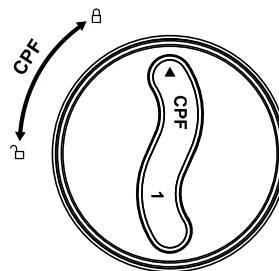

Figure 7
6. Gently press the filter element and rotate it 90° clockwise, ensure the triangle icon on top of filter element point at  icon(As Figure 7).